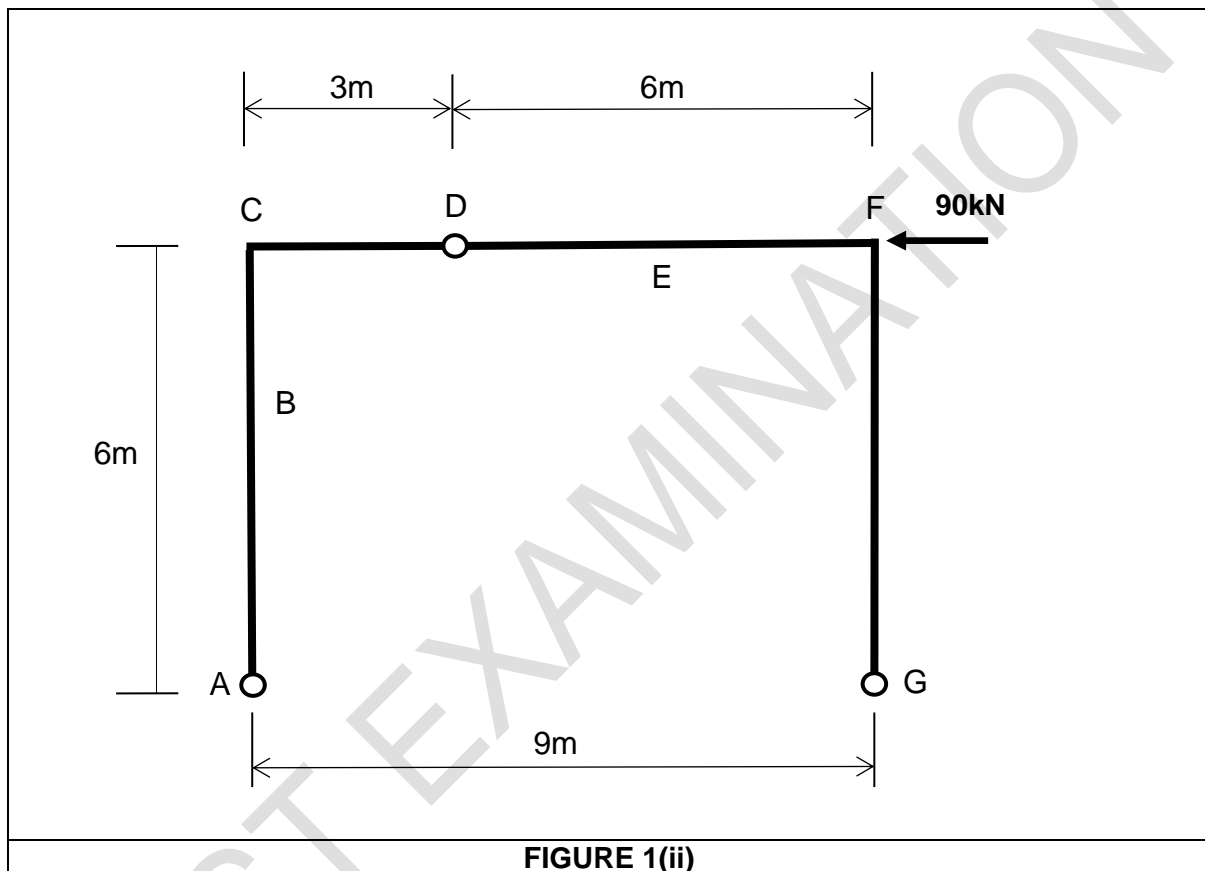

FIGURE 1(ii)
Figure 1(i) shows a three pin frame, pinned to supports at A and G, with a third pin at D. There is a horizontal point load of **90kN** at position **B**, and a vertical point load of **30kN** at position **E** as shown in Figure 1(i).
Figure 1(ii) (on the next page) shows a very similar three pin frame, pinned to supports at A and G, with the third pin at D. The horizontal point load remains the same value but is now applied at Point F.
- e) Without doing any further calculations, sketch the Bending Moment Diagram (BMD) for the three pin frame shown in Figure 1(ii). Do not attempt to calculate the values of the bending moments in the frame. **(6 marks)**